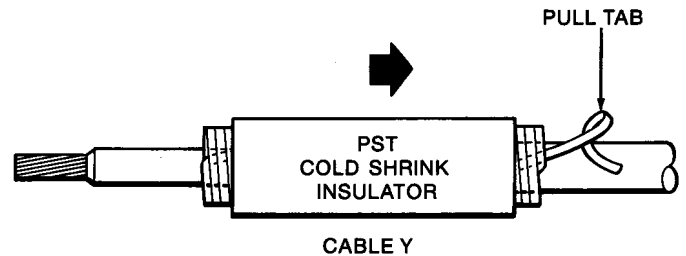

Figure 4
1. Slide longer PST Cold Shrink insulator onto cable "X" jacket and the shorter PST onto cable "Y" jacket directing pull tabs away from cable ends as shown in figure 4.